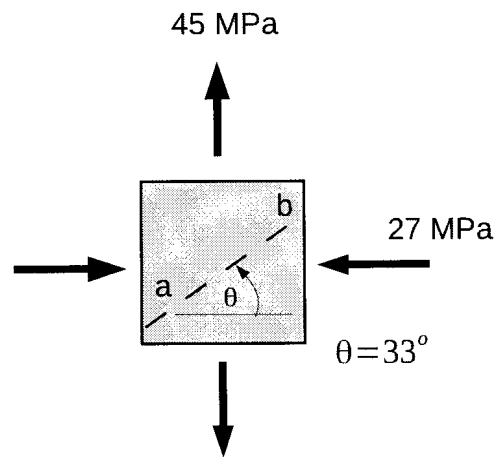

Figure 4.
4). The stress shown in figure 4. Use Mohr's circle to determine the normal and shear stresses at this point on the inclined plane a-b . Show these stresses on the sketch.